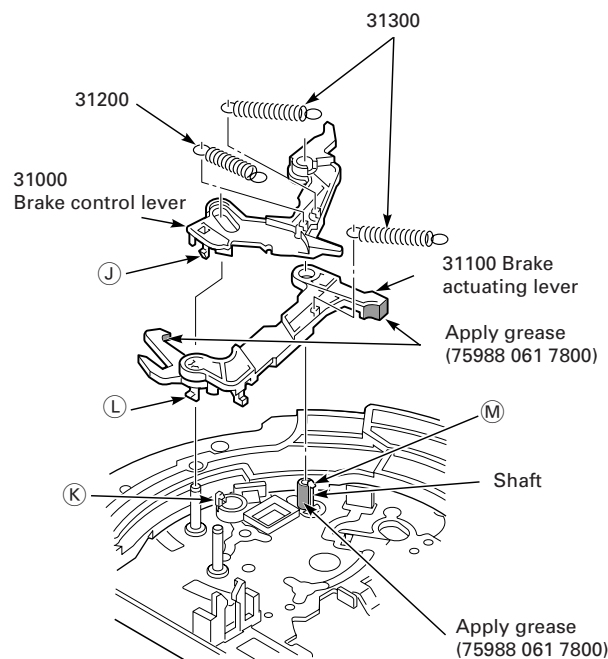

Fig. 8.22
- Disengage clamp (J), then clamp (K) and remove the brake control lever (31000, Fig. 8.22).
- Detach the brake return spring (31300) and the clutch change lever spring (31200, Fig. 8.22).
- Disengage clamp (L), then clamp (M) and remove the brake actuating lever (31100, Fig. 8.22).
- Always use grease with part number **75988 061 7800** for lubricating the brake actuating lever (31100) and follow the lubrication instructions given in Fig. 8.22!
- Detach the brake return spring (31300, Fig. 8.22).